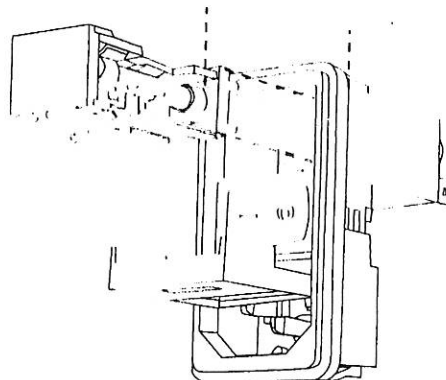

Figure 9
2. Insert the blade of a small screwdriver into the slot on top of the power connector and open the cover (see Figure 9).